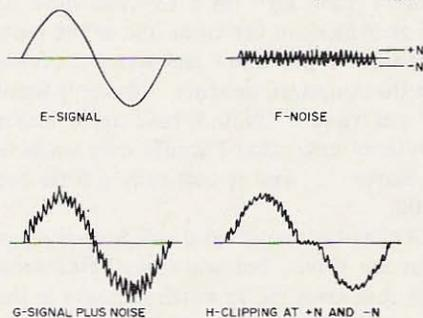
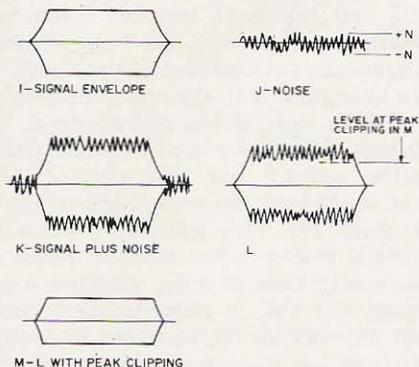

Fig. 2. Behavior of sine-wave signal in the presence of noise.
Fig. 3. Improvement of CW signals by base clipping.
Checking of the base clipper operation with a good oscilloscope corrected the original erroneous theory of operation, and finally showed just how the noted signal improvement came about. Referring to Fig. 2, if we feed an amplifier with a signal (E) and a noise (F), the resultant output will be the mushed sine wave (G). Clipping the base of this curve at levels $+N$ and $-N$ will produce the curve (H), and no detectable improvement in tone quality. With continuous sine waves, base clipping does not improve signal quality. However, with wave trains, such as a CW signal, base clipping at the level of the average noise (or slightly higher) does produce a definite improvement in readability, as in Fig. 3, and this is still further increased if base clipping is followed by peak clipping. Wave envelope of a noise-free CW signal is shown in Fig. 3, (I). To this is added noise (J), producing the output (K), a combination of signal and noise. The signal plus noise-to-noise ratio here is poor. By clipping the base at a level equal to or slightly exceeding the noise, envelope (L) is produced, with a greatly improved noise ratio. If this signal is now peak-clipped,